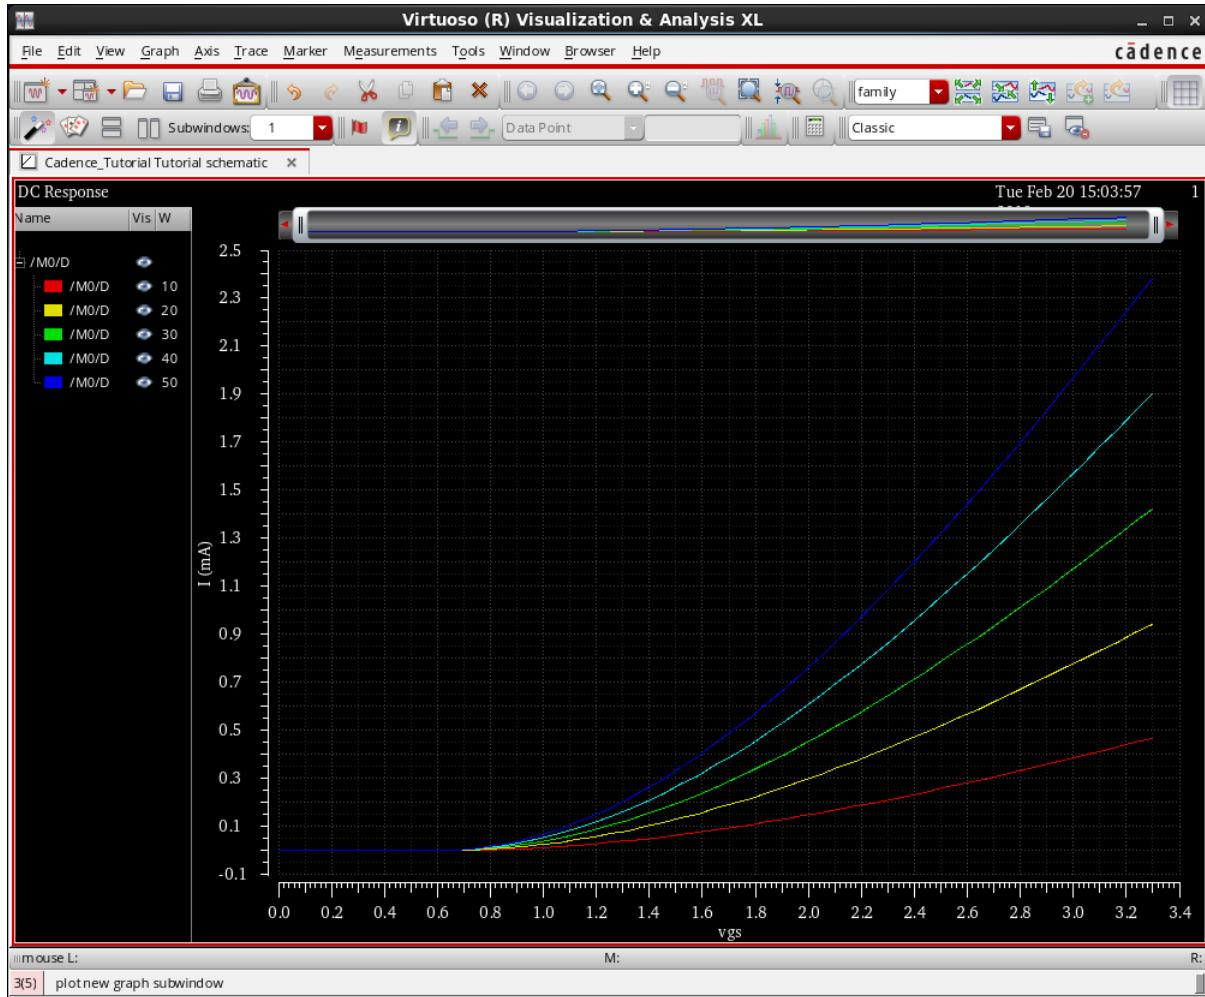

Figure 154: Drain current with variable gate-source voltage and variable transistor widths
The result of the simulation should be the curves shown in *Figure 154*. According to *Formula (1)* from *Chapter 7.1* we expect an increasing drain current for larger transistor.